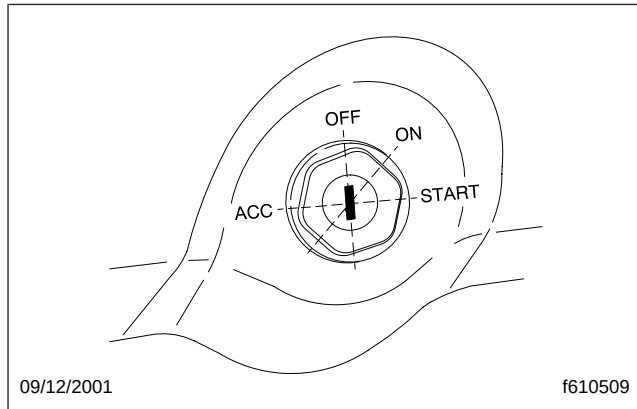

Fig. 16.7, Ignition Switch Positions
- Without starting the engine, turn the ignition switch to the ON position (**Fig. 16.7**). The electronic gauges on the instrumentation control unit (ICU) will complete a full sweep of their dials, the warning and indicator lights will illuminate, and the buzzer will sound for three seconds.